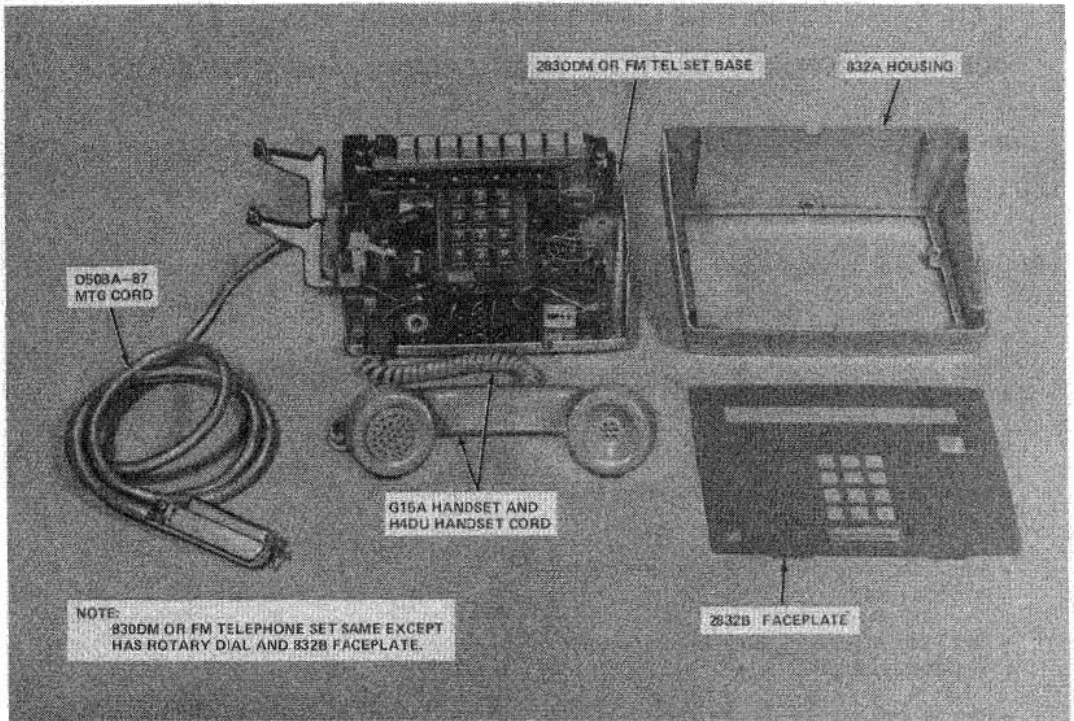

Fig. 3—Station Modular Arrangement 2830DM (MD) or 2830FM Telephone Set
- Add Table A, ordering guide and replaceable components, Fig. 3
**3.01** Install the completely assembled telephone set or assemble the required components to the telephone set base (Fig. 3).